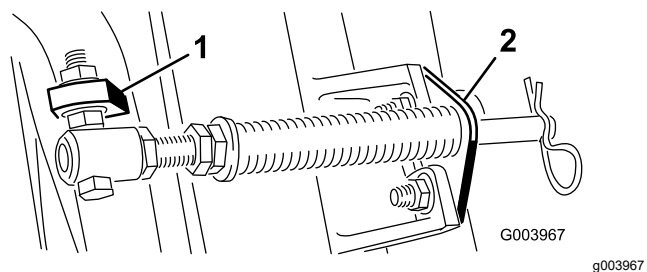

Figure 5
4. Mount the rod bracket to the cutting unit tabs with the carriage bolts and nuts (Figure 5).